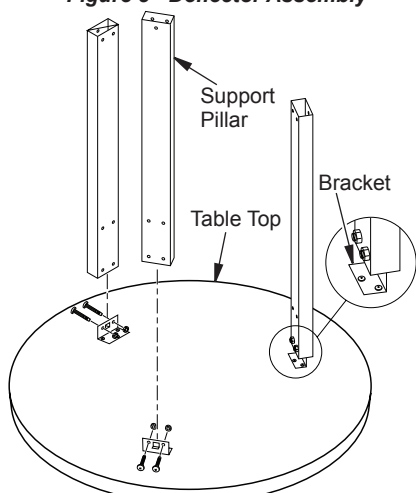

Figure 9 - Table Top Assembly
16. Lay table top upside down on a blanket or piece of cardboard to prevent scratching. Making sure holes in support pillars are oriented as shown in Figure 9, install 3 remaining table support pillars as shown. Attach pillars to table top with 2 screws (D) and 2 nuts (E) each.